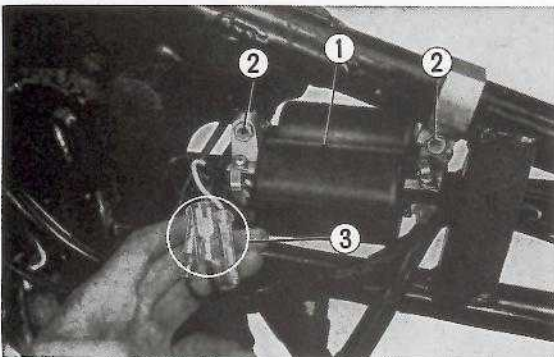

Fig. 7-7
3. Unscrew the two ignition coil mounting bolts and then the ignition coil can be removed from the frame. (Fig. 7-7)